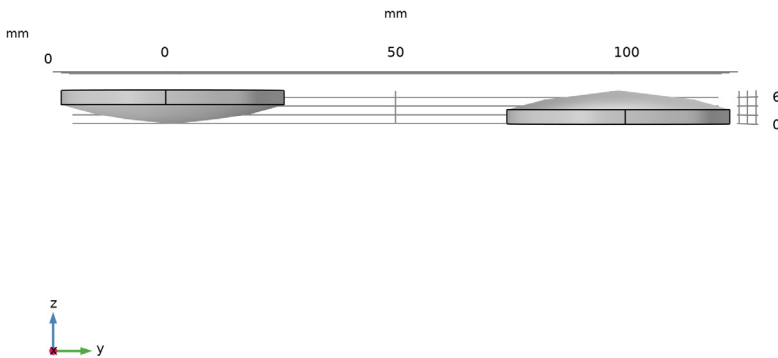

Figure 1: Two plano-convex lenses with different orientations.
This model uses two plano-convex lenses from the Part Libraries with the default options, as shown in Figure 1. Collimated beams traveling in the $+z$ direction are focused by each lens and the focusing performance is visualized using **Spot Diagram** and **Geometric Modulation Transfer Function (MTF)** plots.
- 7 Click the  **Go to YZ View** button in the **Graphics** toolbar. Compare the geometry to Figure 1.